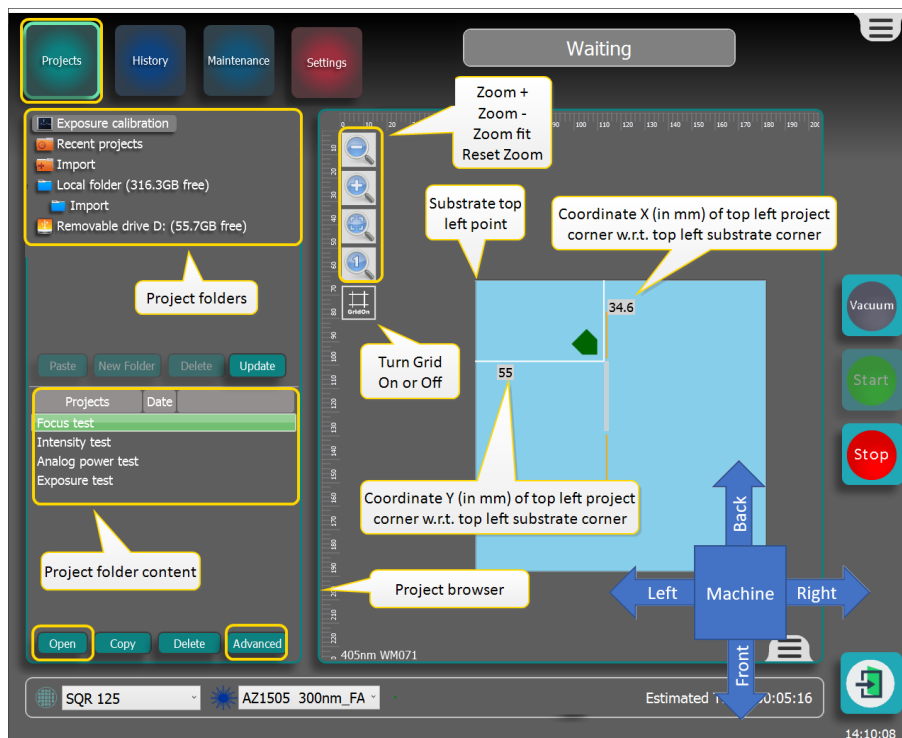

Figure 3-45 Selecting a project
1. Select **Projects**, see **Figure 3-45** below.